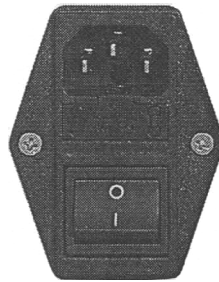

Fig.6.2
6.2 Power connection (Fig. 6.2)